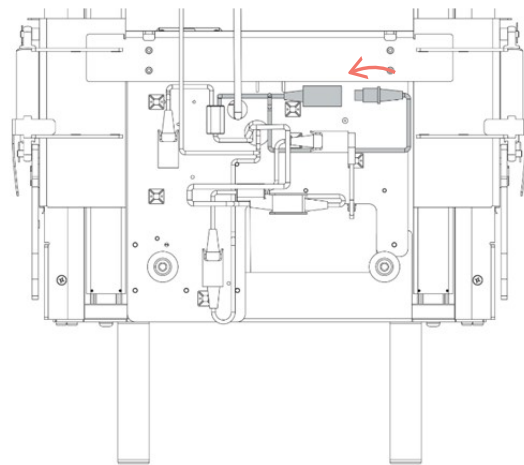

Fig 12.2a
- Looking at the rear of the product, locate the female connector, as shown in Fig 12.2a.